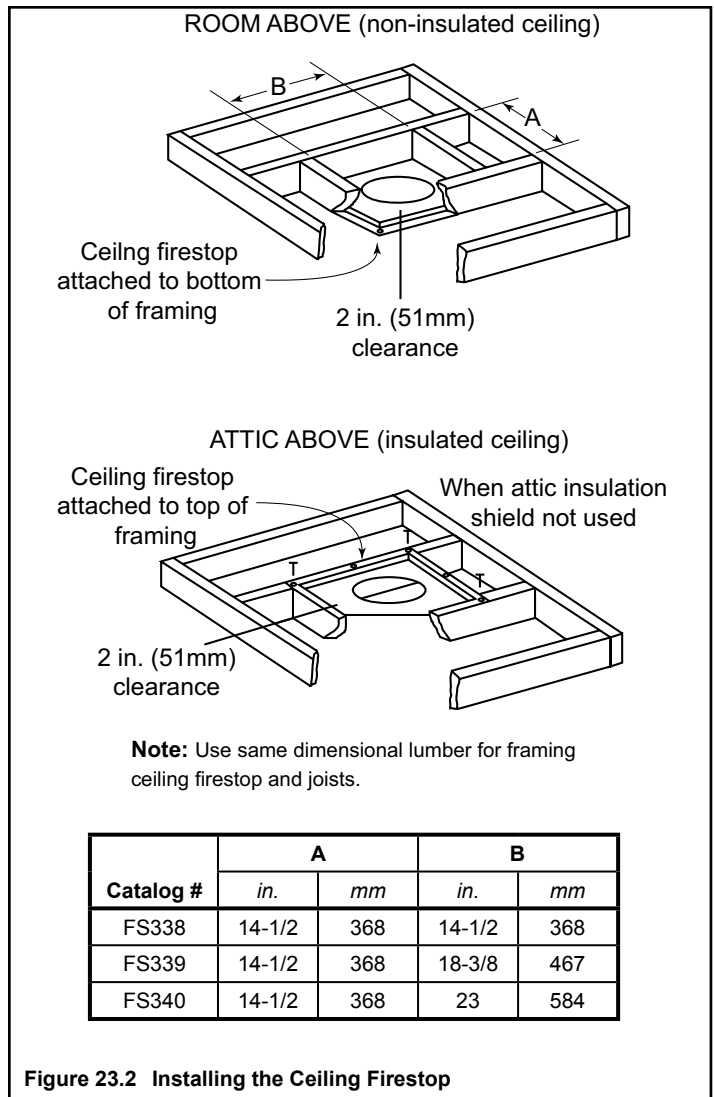

Figure 23.2 Installing the Ceiling Firestop
- Mark and cut an opening in the ceiling for the ceiling firestop being used. See Figure 23.2.
Note: The ceiling firestop **MUST** be nailed to the bottom of the ceiling joists **EXCEPT** when the space above is uninsulated and the attic insulation shield is not being used (see Figure 23.2). When the attic insulation shield is used the ceiling firestop may be above or below the joist of an insulated ceiling.